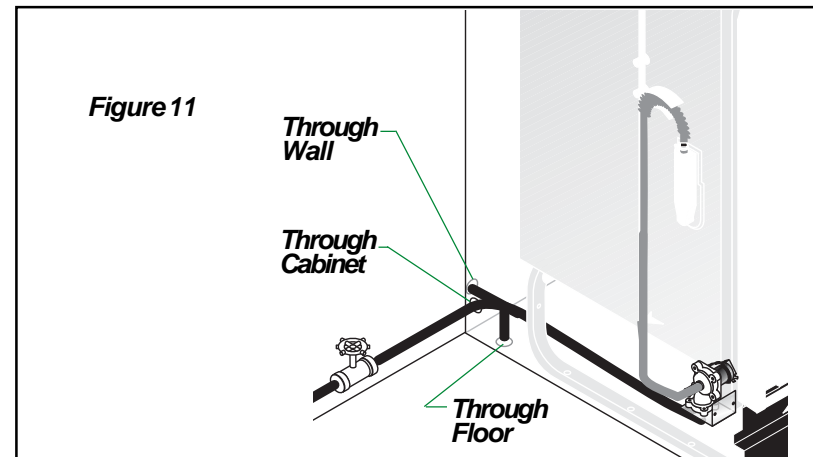

Figure 11
- Route water line to water inlet valve as shown in **Figure 11**.
- If water inlet valve clogs, make sure water supply is off. If using a 3/8" NPT valve, remove four (4) screws at inlet end of valve and clean filter screen. If using 3/4" hose thread fitting simply clean filter screen.